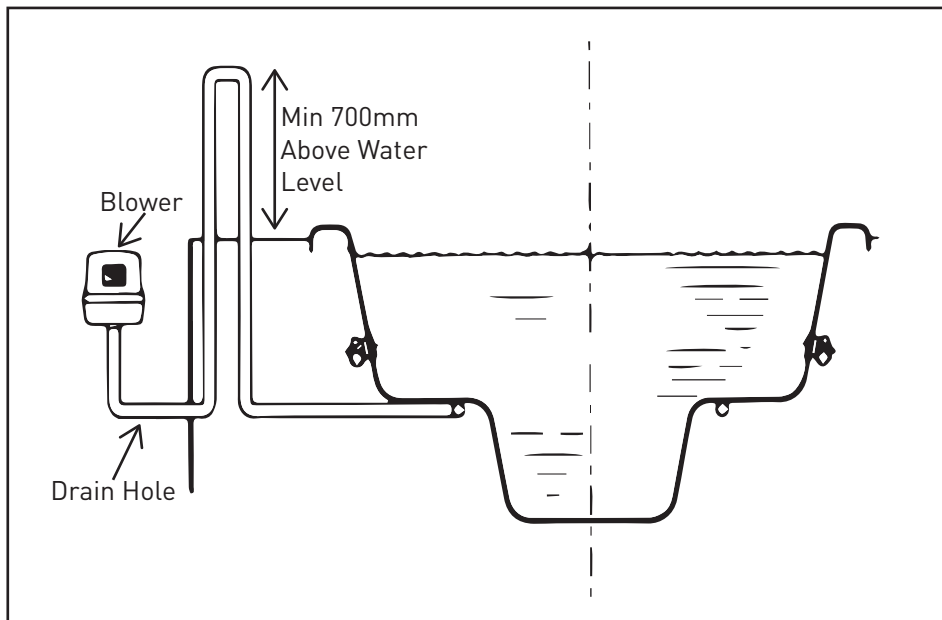

Figure 2
- If the blower is to be installed below the water level or further than 5 meters from the pool/spa a loop must be installed at least 700mm above the highest water level (see Figure 2). This loop should be installed within two meters of the pool/spa. Drill a bleed hole after loop to remove any condensation (refer Figure 2).